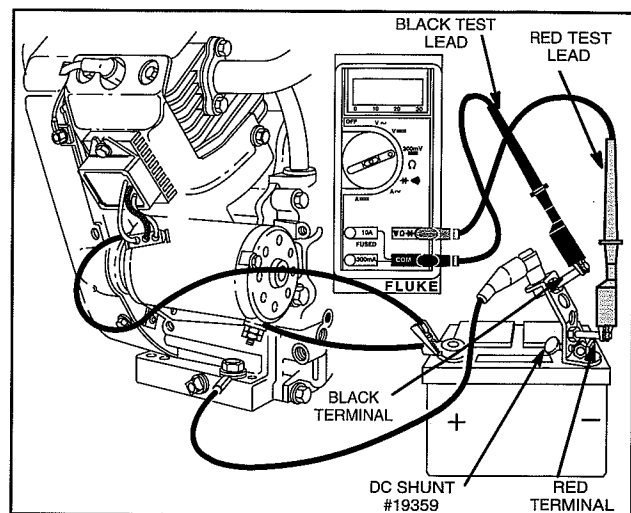

Fig. 27 – Testing Regulator-Rectifier 20 Amp System With DC Shunt
The DC Shunt **must** be installed on the **negative (-)** terminal of the battery, Fig. 27. All connections must be clean and tight for correct amperage readings.
2. Insert RED test lead into $V \Omega \rightarrow$ receptacle in meter and connect to RED post terminal on shunt, Fig. 27.